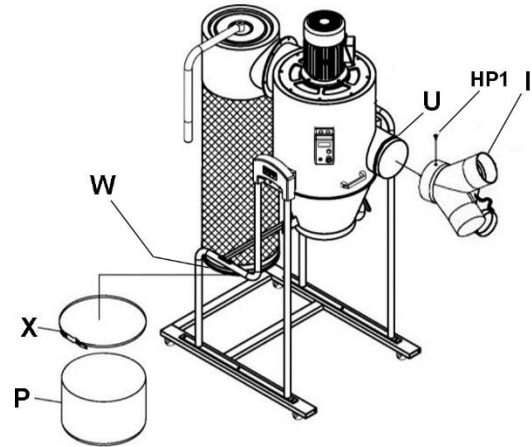

Figure 10
11. Apply foam tape (U) around inlet port near edge. See Figure 10. The foam tape should completely encircle the port.
12. Install inlet adaptor (I) on main housing and secure with pan head screw (HP1).
13. Apply foam tape (W) just above lower lip of canister filter. The foam tape should completely encircle the canister filter.
14. Install collection bag (P) to bottom of canister filter and secure with steel bag clamp (X). Note: Masking tape can be used to hold bag in position on canister until clamp is secured.